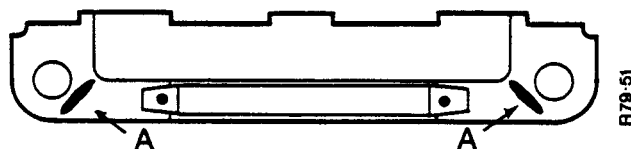

FIGURE 57 POSITION OF SEALANT
3. Put a thin strip of Loctite Superfast Flange Sealant 573, Part No. K965910 on each side of one part of the retainer. See Figure 57.
1. Put a thin strip of Loctite Superfast Flange Sealant 573 on each side of one part of the retainer. See Figure 57.